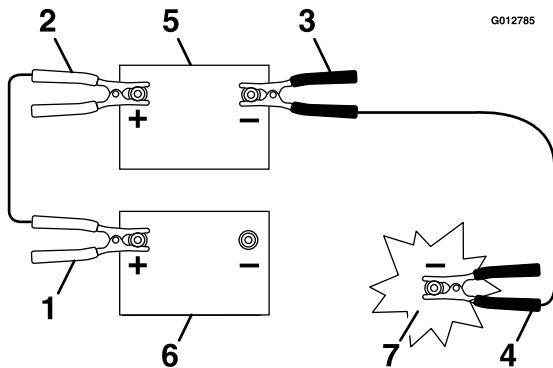

Figure 20
3. Connect the positive (+) cable to the positive (+) terminal of the discharged battery that is wired to the starter or solenoid as shown in Figure 20.